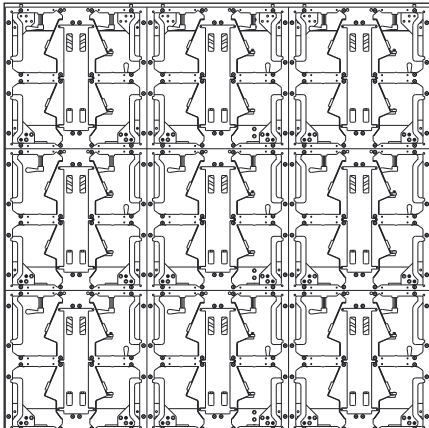

Figure 12: Install Tubes
17. Self-drill through all four corner locations to secure the top row of panels. Refer to **Figure 12**.